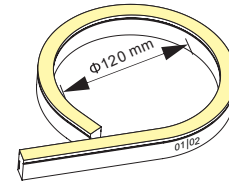

Fig. 1
- Do not bend past the minimum diameter (Fig. 1) or twist this fixture (Fig. 3, 5). Doing so will result in damaging the internal circuit board.